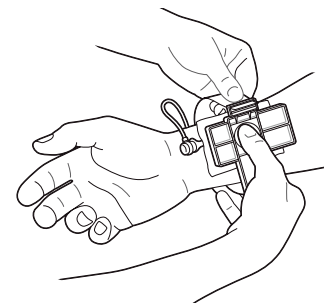

Figure 2a
- Engage the bracelet into the micro-adjustment fastener with thumb on compression pad, and tighten enough to keep band in place. [See Figures 2a, 2b]